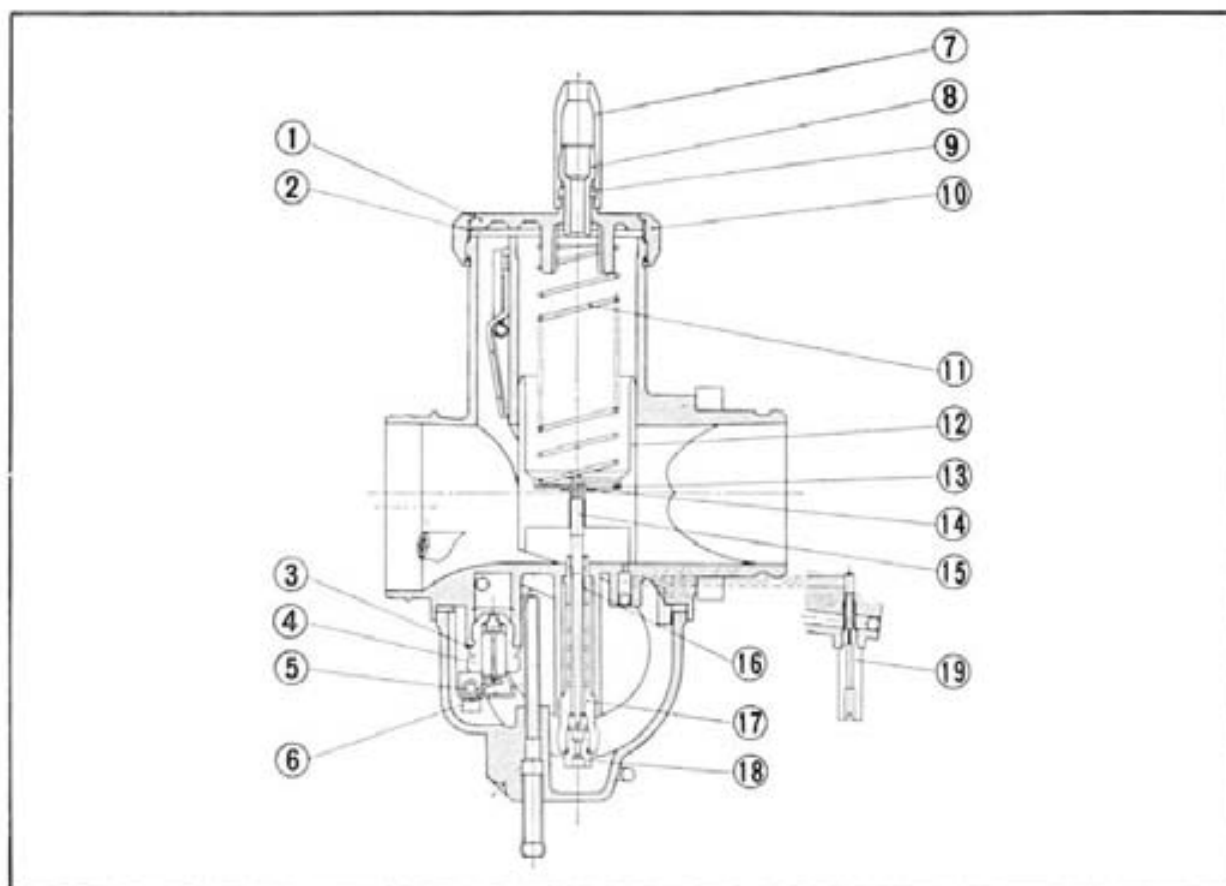

Fig. 6-1
Fig. 6-1 shows the construction details of the carburetor.
The carburetor must provide a proper mixture of fuel at different throttle openings and engine speeds; in order to accomplish this, the fuel level in the carburetor must be maintained constant. The float chamber functions to serve this purpose. The fuel from the tank enters the float chamber through the fuel inlet passage, between the float valve seat ④ and float valve and fills the chamber to the level where the float ⑤ rises to shut off the fuel by seating the float valve against the valve seat through the action of the float arm. As the fuel is consumed, the fuel level in the float chamber, drops the float will follow the level, and the fuel will start to enter the chamber between the opening of the float valve and valve seat to maintain a constant fuel level. (Fig. 6-1)